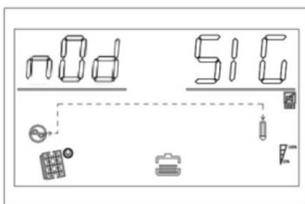

Figure 1-12 Display page 12 (lithium battery network status)
**Display page 11:** Display information. In single unit mode, the LCD shows status of single unit mode both on the left and right sides. In parallel connect mode, the LCD shows the master slave relation on the left, shows the parallel status on the right. If parallel connect as three phases use, the LCD shows the phase position on the left shows the status on the right. Shown in Figure 1-12 (applicable to the inverter with parallel function)